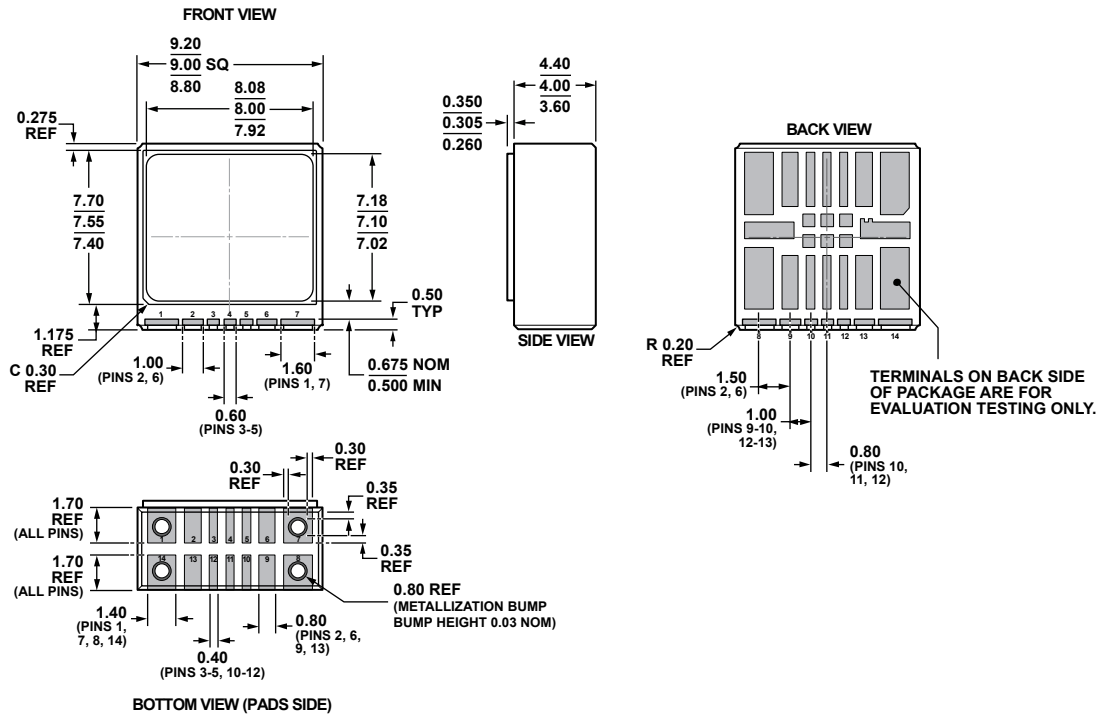

Figure 38. 14-Terminal Ceramic Leadless Chip Carrier, Vertical Form [LCC_V] (EY-14-1)
1. THE PACKAGE HAS TERMINALS ON TWO FACES. HOWEVER, THE TERMINALS ON THE BACK ARE FOR INTERNAL EVALUATION ONLY AND SHOULD NOT BE USED IN THE END APPLICATION. THE TERMINALS ON THE BOTTOM OF THE PACKAGE INCORPORATE METALLIZATION BUMPS THAT ENSURE A MINIMUM SOLDER THICKNESS FOR IMPROVED SOLDER JOINT RELIABILITY. THESE BUMPS ARE NOT PRESENT ON THE BACK TERMINALS AND, THEREFORE, POOR SOLDER JOINT RELIABILITY CAN BE ENCOUNTERED IF THE BACK TERMINALS ARE USED IN THE END APPLICATION. FOR THE OUTLINE DIMENSIONS OF THIS PACKAGE, SEE FIGURE 38.